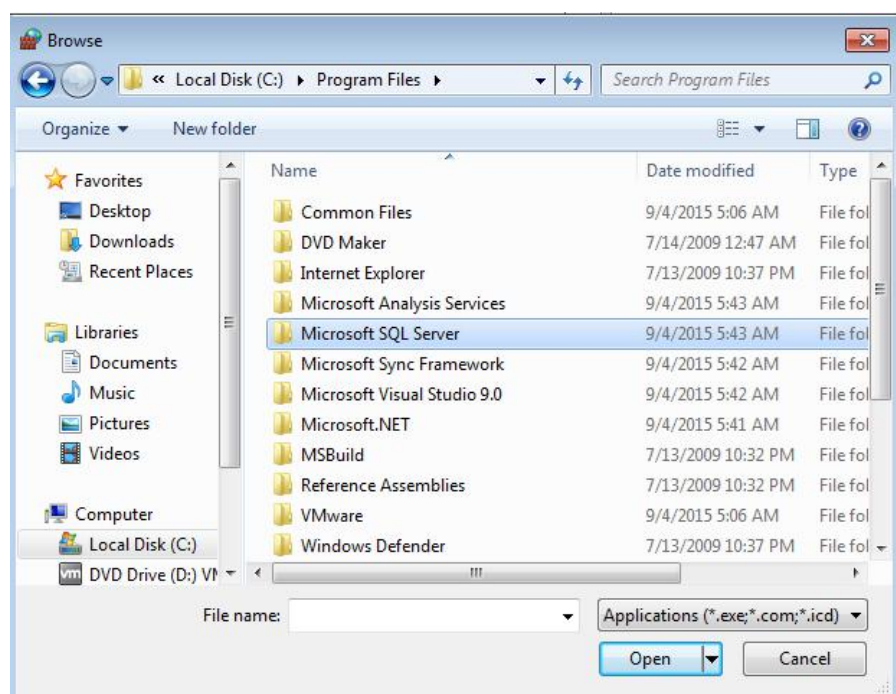

Fig.1.20 Program Files
(7) Open “Microsoft SQL Server” folder (see Fig.1.20).